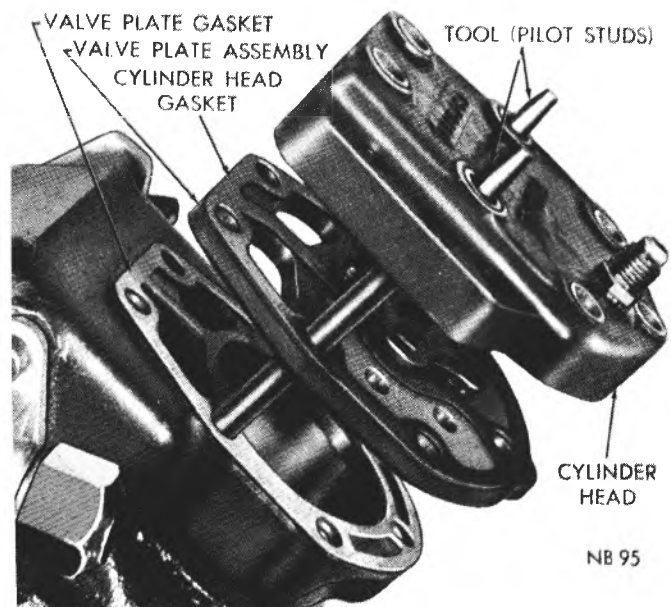

Fig. 38—Installing the Valve Plate and the Cylinder Head
- (2) Using the pilot studs as a guide, install the valve plate gasket, valve plate, cylinder head gasket and cylinder head, as shown in Figure 38.
- (3) Install the attaching bolts. Tighten each bolt alternately and evenly 18 to 24 foot-pound (name plate bolts) and 20 to 26 foot-pounds on the remaining bolts.